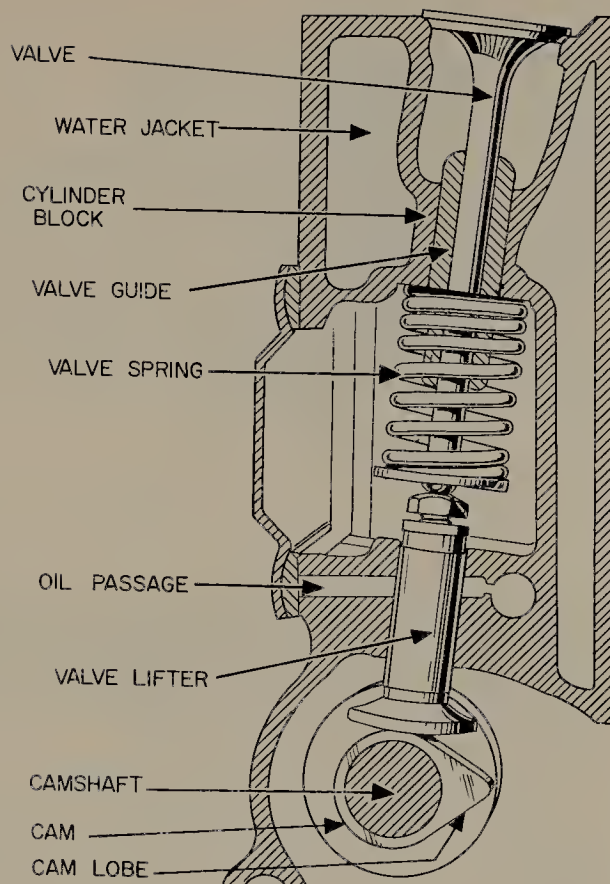
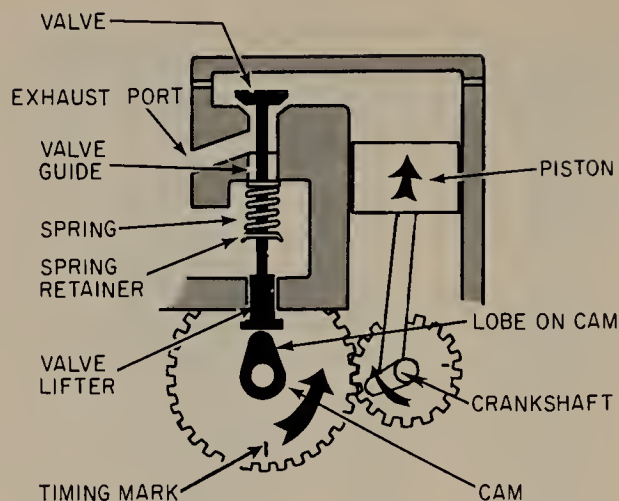

FIGURE 4.2 Valve mechanism used in an L-head engine. The valve is raised up off its seat with every camshaft rotation.
FIGURE 4.4 As the camshaft is driven by the crankshaft, the cam lobe moves up under the valve tappet, and this forces the valve to move up off its seat.
4.2 Operating the Valves. Figure 4.2 shows a typical arrangement for operating a valve in a small engine. The valve moves up and down in a valve guide which is part of the cylinder block. There is a valve spring that puts tension on the valve and tries to keep the valve closed, that is, seated on the valve seat, or port, in the cylinder block. The valve spring is held between the cylinder block and a spring retainer. The spring retainer is attached to the valve stem by a retainer lock which fits into grooves in the valve stem. Below the valve stem is a valve lifter or valve tappet as it is also called. The valve lifter moves up and down in a bore, or hole, in the cylinder block. The valve lifter rests on a cam which has one high spot, or lobe. The cam rotates as the crankshaft rotates. The two are geared together. Figure 4.3 shows a gearing arrangement for a small four-cycle engine. As the camshaft rotates, the cam lobe moves around under the valve lifter, causing it to be pushed upward, as shown in Fig. 4.4. This upward push overcomes the valve-spring tension so that the valve is raised off the valve seat. The valve is then open, and gas can pass through the opening between the valve seat and valve. If the valve is the intake valve, it is air-fuel mixture from the carburetor that passes through the valve opening on its way to the cylinder. If it is the exhaust valve that opens,
4.9 I-Head Engine. The type of engine described above and shown in Figs. 4.2 to 4.10 is called an L-head engine because the cylinder and combustion chamber are in the shape of an inverted L (Fig. 4.13). Most small four-cycle engines are of this type. They have the valves located in the cylinder block. Some small four-cycle engines, and almost all automotive engines, are of the I-head, or overhead-valve type. In this type of engine, the valves are located overhead, in the